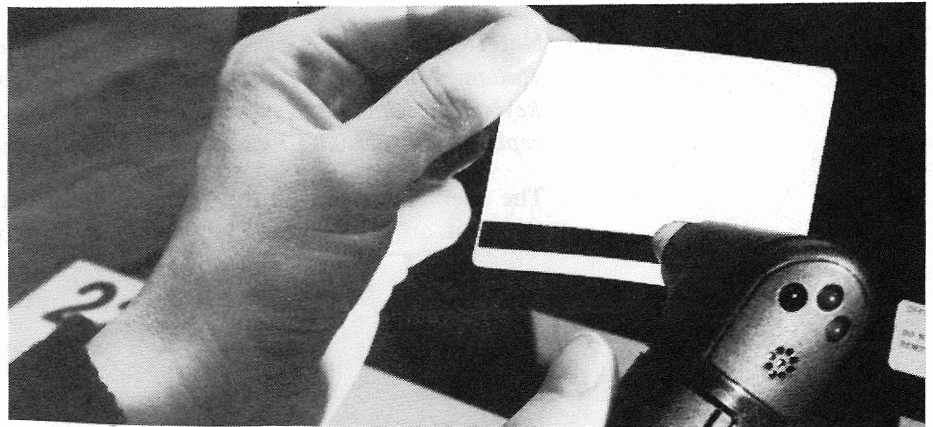

Figure 2-12. Magnetic Hand Scanner
- **Magnetic Hand Scanner (Figure 2-12).** The magnetic hand scanner enables an 8775 with Enhanced-Function-with-Magnetics to read data encoded on magnetic-striped labels (affixed to any object such as box, shelf, or product) or on hand-held magnetic-striped tags (placed on flat surfaces) that use a 63-character alphanumeric character set. This character set comprises alphabetic and numeric characters, special characters, and space.